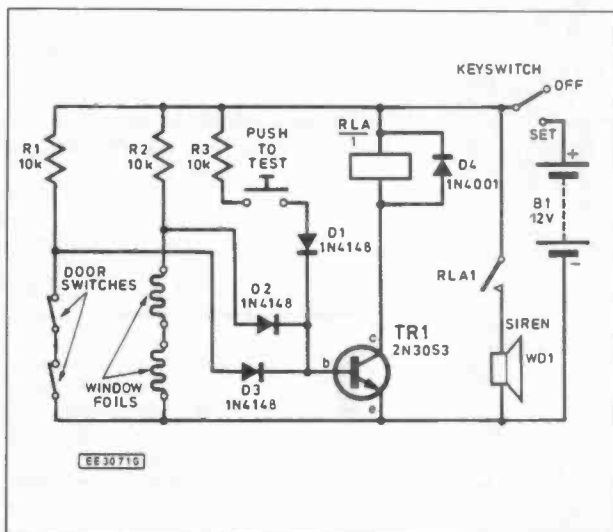

Fig. 6.25 Answer to last month's Design Problem
- One solution to last month's design problem is shown in Fig. 6.25.